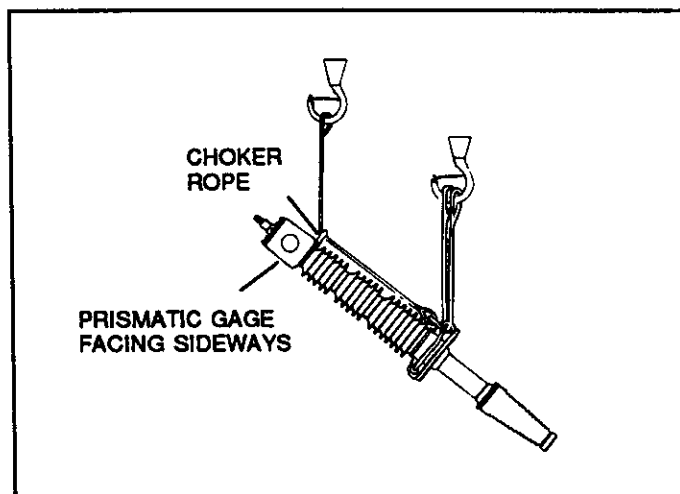

Figure 4C: Method of mounting a bushing at an angle and orientation of the prismatic glass oil level gage.
e. When a bushing has to be mounted at an angle, it should be lifted as shown in Figure 4C. Attach a sling to a crane hook. Pass the other end of this sling through the eye of a choker rope/sling tied around the porcelain shed just under the dome or under the first porcelain shed on a bushing without the metal dome. Attach a shackle to this sling and then attach this shackle to the mounting flange lifting lug. Pass a sling through the hole in each of the two lifting lugs and then attach the two ends of this sling to the second crane hook. Mount the bushing by raising or lowering the crane hooks.
Bushings rated 161 kV thru 362 kV are provided with prismatic glass oil level gages. This gage should be oriented towards the side as shown in Figures 4C and 4D for proper oil level indication.